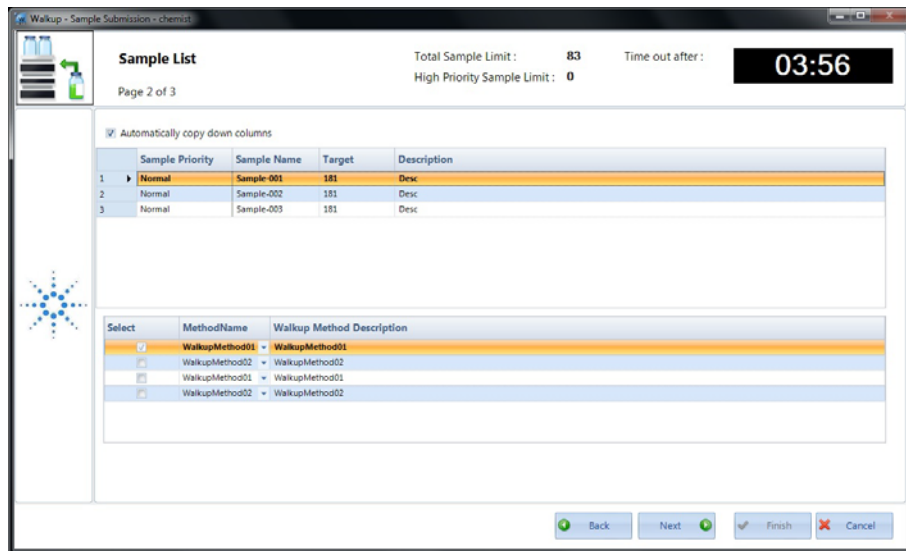

Figure 12 Sample List (Page 2 of 3)
- b Type and select your sample information in the sample list table. Fill out a row of the table for each sample. Enter information such as **Description**, **Formula**, **MethodName**, **Sample Priority**, **Sample Name**, **Position**, and **Target**. The column headings are customized by the system administrator; your **Sample List** page may appear different from the example in **Figure 12**. Additionally, many of the parameters available to the system administrator are customizable; the **MethodName** parameter is mandatory.